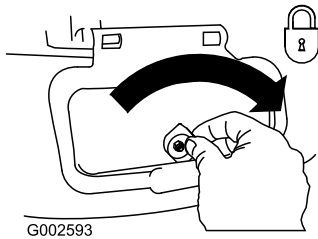

Figure 34
**Important:** Lock the side-discharge door after you close it (Figure 34).